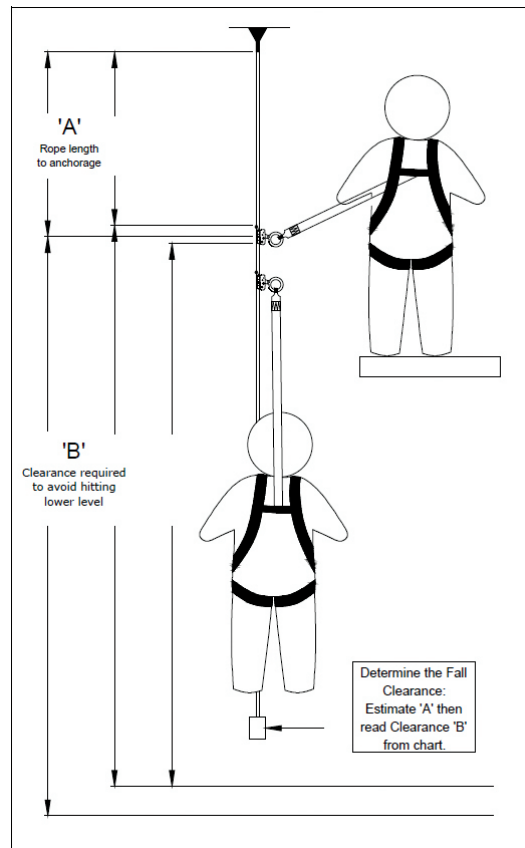

Figure 5– Swing Falls
- d **SWING FALLS:** Swing falls occur when the anchorage point is not directly above the point where a fall occurs (Figure 5). The force of striking an object while swinging can be great and cause serious injury.